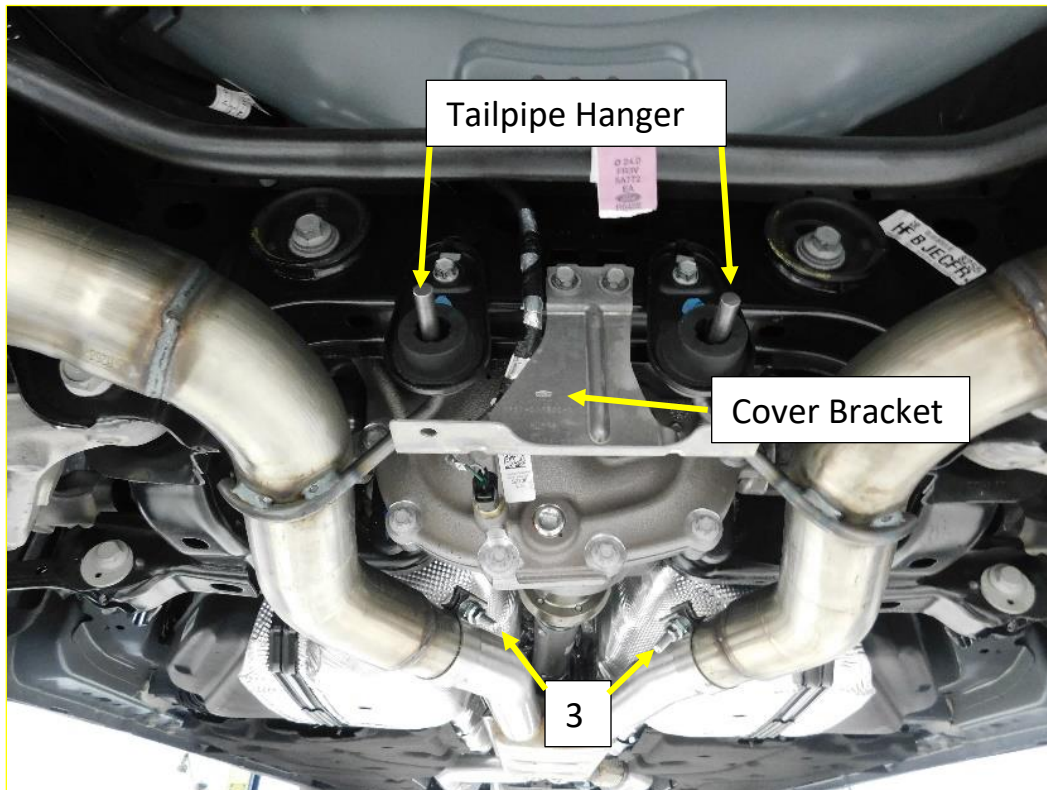

Figure 10
7. Install the tailpipe hanger assembly on to the Flowmaster hanger rod, and align the bolt hole and frame clip. Install and tighten the mounting bolt (**Fig. 10**).
9. Install the rear cover mounting bracket and bolts (**Fig. 10**).
10. Tighten the 2.5" band clamp (3) to allow for adjustment (**Fig. 10**).
12. Check all clearances and tighten the band clamp (3) fully.